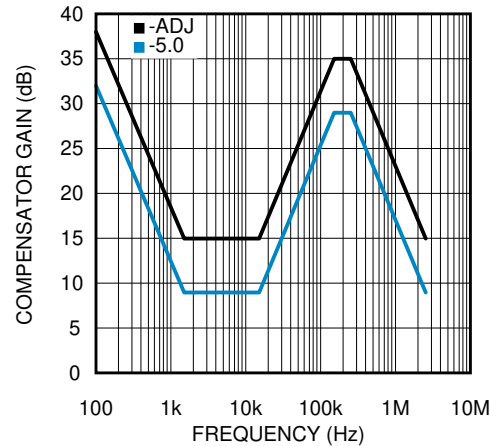

Figure 7-2. Compensator Gain
The complete transfer function for the regulator loop is found by combining the compensation and power stage transfer functions. The LM22678 has internal type III loop compensation, as detailed in Figure 7-2. This is the approximate "straight line" function from the FB pin to the input of the PWM modulator. The power stage transfer function consists of a dc gain and a second order pole created by the inductor and output capacitor or capacitors. Due to the input voltage feedforward employed in the LM22678, the power stage dc gain is fixed at 20 dB. The second order pole is characterized by its resonant frequency and its quality factor (Q). For a first pass design, the product of inductance and output capacitance should conform to Equation 3.